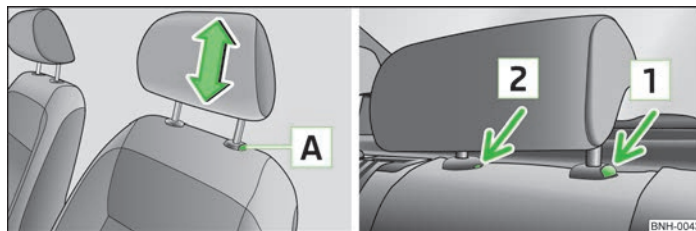

Fig. 35 Head restraint: adjusting/removing
- To move the head restraint downwards, press and hold the safety button  » Fig. 35 with one hand and press the head restraint downwards with the other hand.
- Press the safety button **A** » Fig. 35 and pull out the head restraint.
- Press the locking button **1** » Fig. 35, simultaneously press the locking button into the opening **2** using a flat screwdriver with a width of maximum 5 mm and pull out the head restraint.